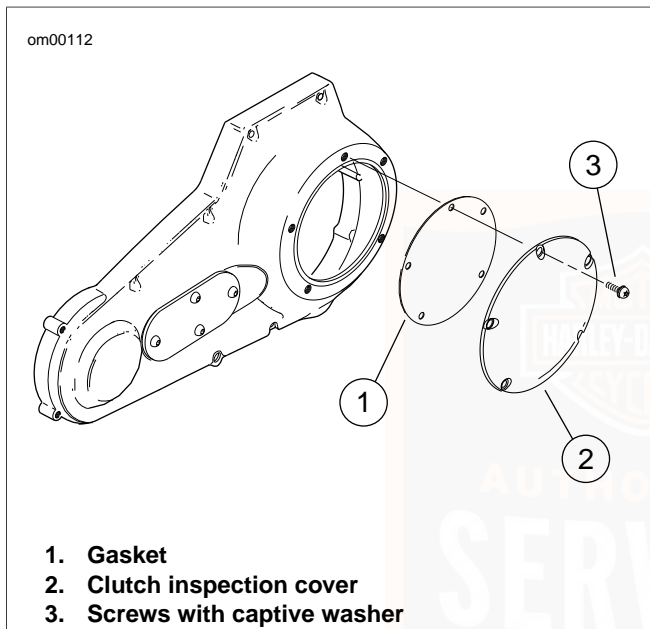

Figure 56. Clutch Cover
3. See Figure 56. Using a T27 TORX drive head, remove five screws (3) (with captive washers) to free clutch inspection cover (2) from primary chaincase cover.
2. See Figure 56. Using a T27 TORX drive head, remove five screws (3) (with captive washers) to free clutch inspection cover (2) from primary chaincase cover.
- e. Using a T27 TORX drive head, alternately tighten screws to 84-108 **in-lbs** (9.5-12.2 Nm) in the pattern shown in Figure 56.